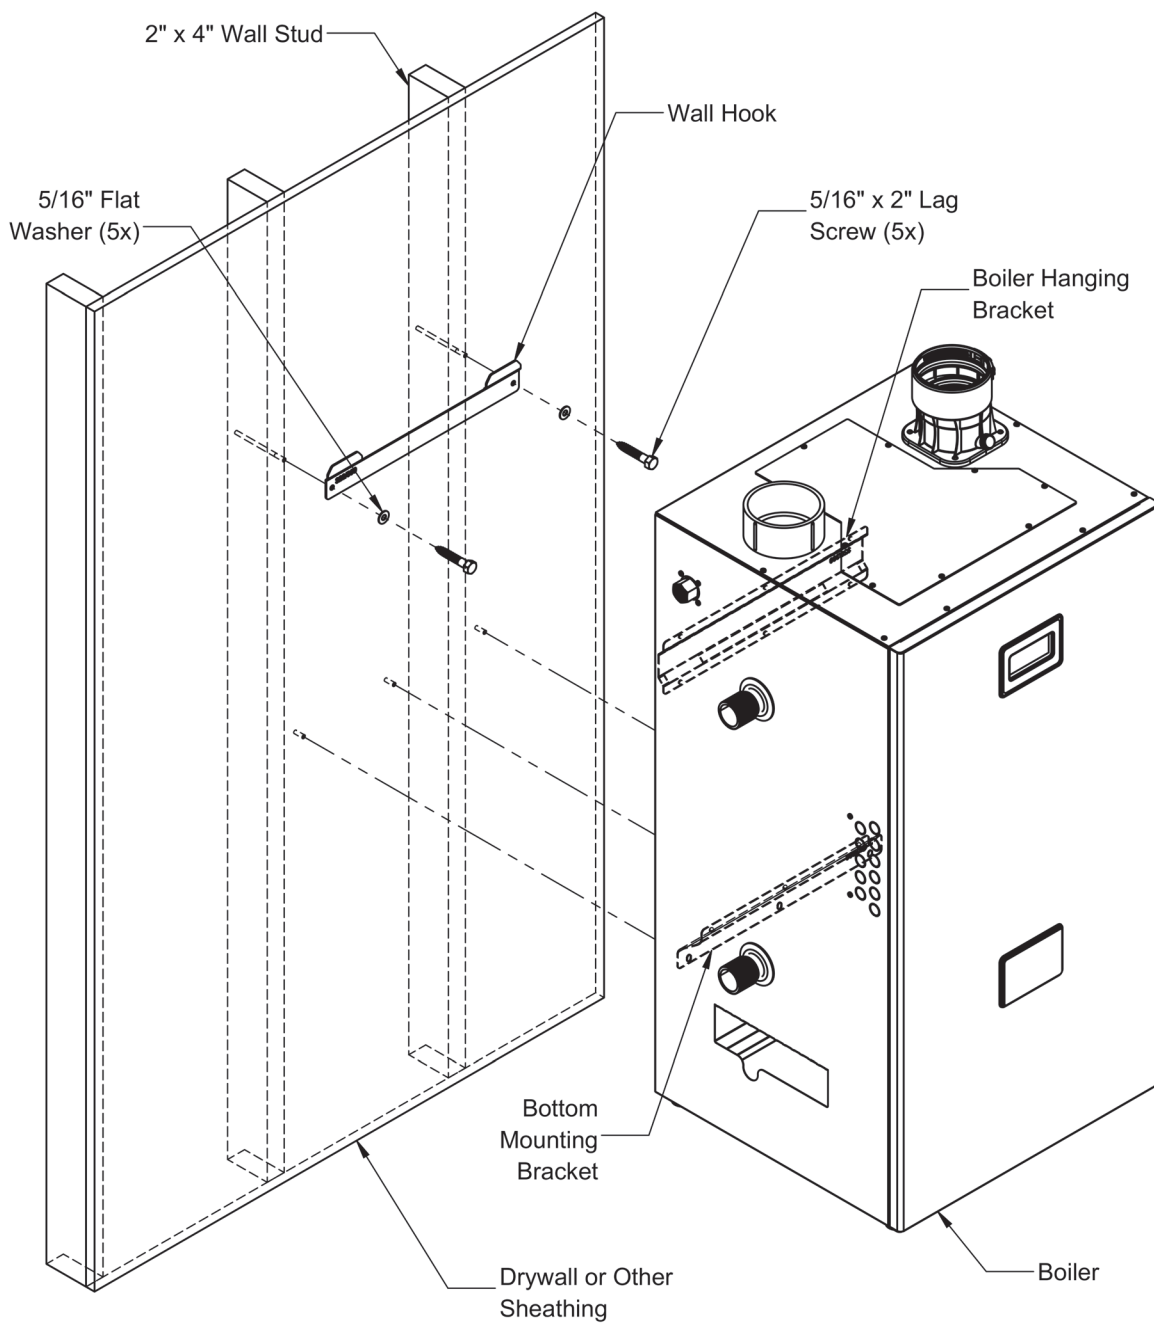

Figure 5.2 Boiler Mounting Bracket Installation / Boiler Wall Mounting
6. The wall mounting hook is used to secure the boiler to the shipping pallet. Remove this hook from the pallet and secure to the wall using the $\frac{5}{16}$ " x 2" lag screws and washers, or other suitable anchors as appropriate (Figure 5.2). Make sure the hook is level.
7. Hang the boiler on the wall hook as shown in Figure 5.2.
8. If not already done in Step (5) locate and drill holes "C" and "D" using the obround slots in the bottom mounting flange. Secure the bottom flange to the wall using the $\frac{5}{16}$ " x 2" lag screws, or other fasteners as appropriate (Figure 5.2).